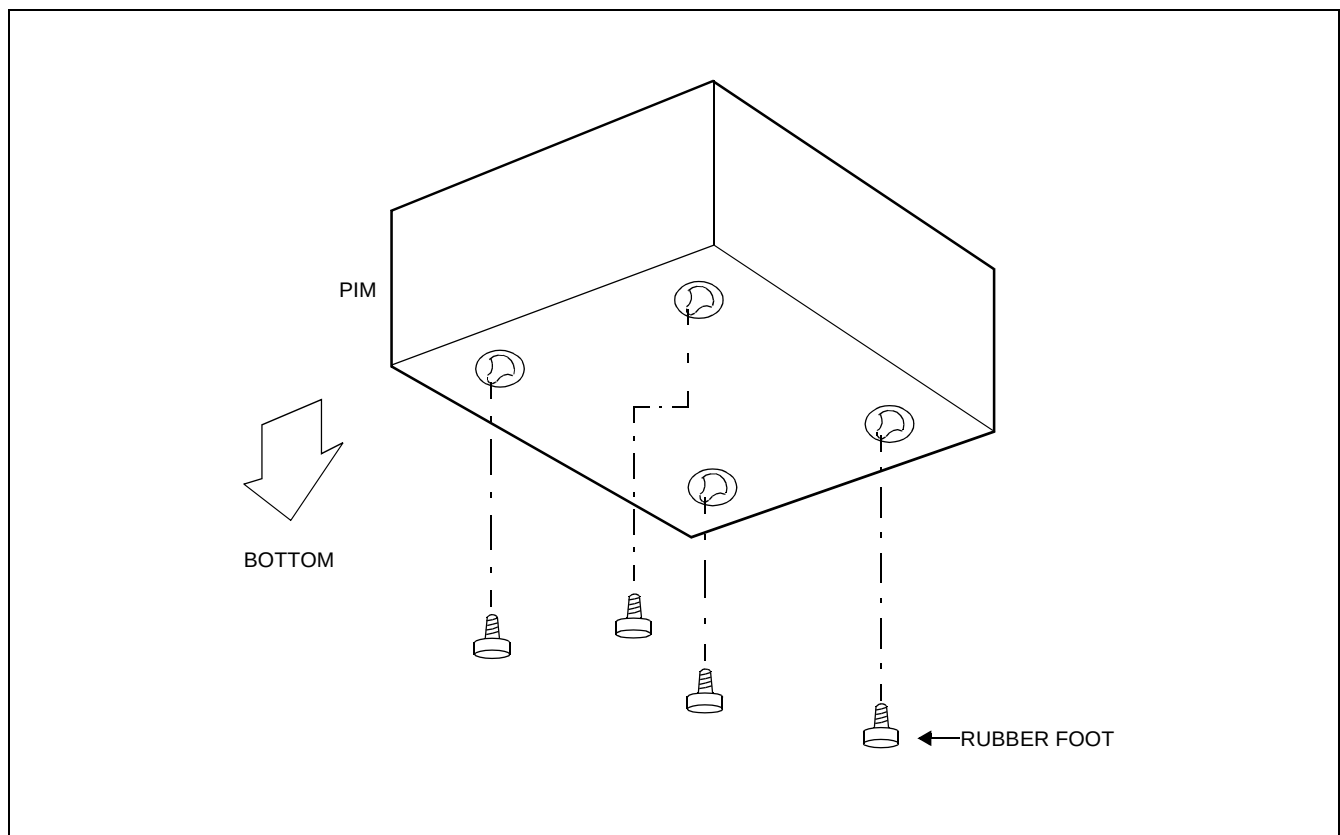

Figure 003-6 Connecting Rubber Foot to PIM
- (3) Screw the RUBBER FOOT to the PIM as shown in Figure 003-6.